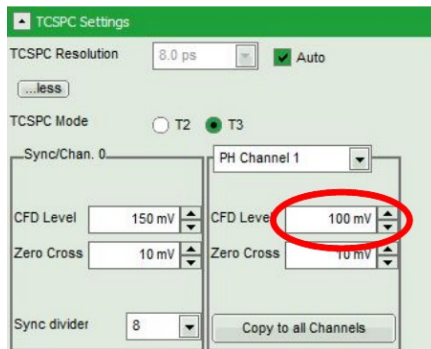

Fig. 6.1: Adjustment of the CFD threshold level by using the SymPhoTime64 software
In case you bought the PMA Hybrid without a complete system, the CFD threshold setting must be adjusted. This setting can be adjusted in the SymPhoTime64 software. Please make sure to have administrator rights and start the software in the "configuration" mode from the start menu. The measurement for the setting is done in the "Test" Tab using the "TCSPC Settings" drop down window (Fig. 6.1).
- PMA hybrid: Set the CFD level to 100 mV, as displayed in Fig. 6.1.
- PMA: Set the CFD level to 10 mV, as displayed in Fig. 6.1. Please write down the count rate. Now go in steps of 10 mV higher and write down the count rate at each step. You will find that the count rate decreases when increasing the CFD-level. Stop when the count rate has dropped to 60 - 70 % of the max. value. Now, monitor the TCSPC histogram. Set the Zero Cross level to 10 mV and vary until you get the smallest peak FWHM.